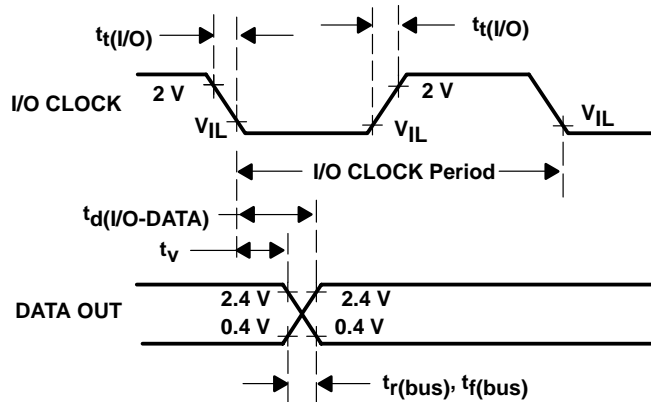

Figure 6. DATA OUT and I/O CLOCK Voltage Waveforms
10. I/O CLOCK period = 1/(I/O CLOCK frequency) (see Figure 6).